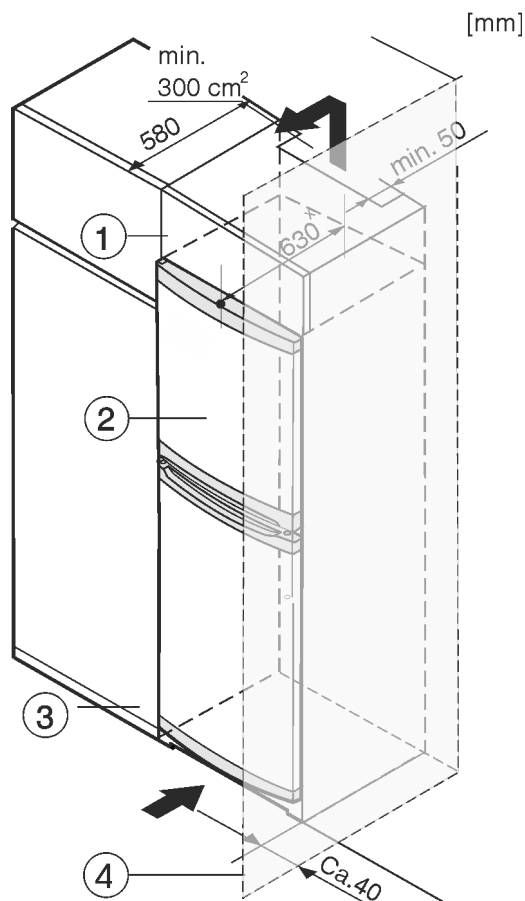

Fig. 8
The appliance can be built into kitchen units. A top cupboard *Fig. 8 (2)* can be added above the appliance in order to bring the appliance *Fig. 8 (1)* up to the height of the fitted kitchen units.
When fitting kitchen cupboards around the appliance (max. depth 580 mm), you can install the appliance directly next to the kitchen cupboard *Fig. 8 (3)*. The appliance protrudes 34 mm x to the side and 50 mm x in the centre of the appliance in relation to the kitchen cupboard front.
If the appliance is set up with the hinges next to a wall *Fig. 8 (4)*, the distance between the appliance and the wall must be at least 40 mm. This is how far the handle protrudes when the door is open.